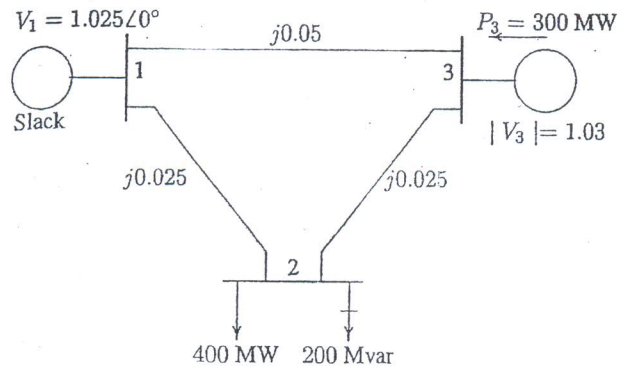

Figure 2
- 2.b. Figure 2 shows the one-line diagram of a simple three-bus power system with generation at buses 1 and 3. The voltage at bus 1 is $V_1 = 1.025 \angle 0^\circ$ per unit. Voltage magnitude at bus 3 is fixed at 1.03 pu with a real power generation of 300MW. A load consisting of 400MW and 200Mvar is taken from bus 2. Line impedances are marked in per unit on a 100MVA base. Line resistances and line susceptances are neglected.